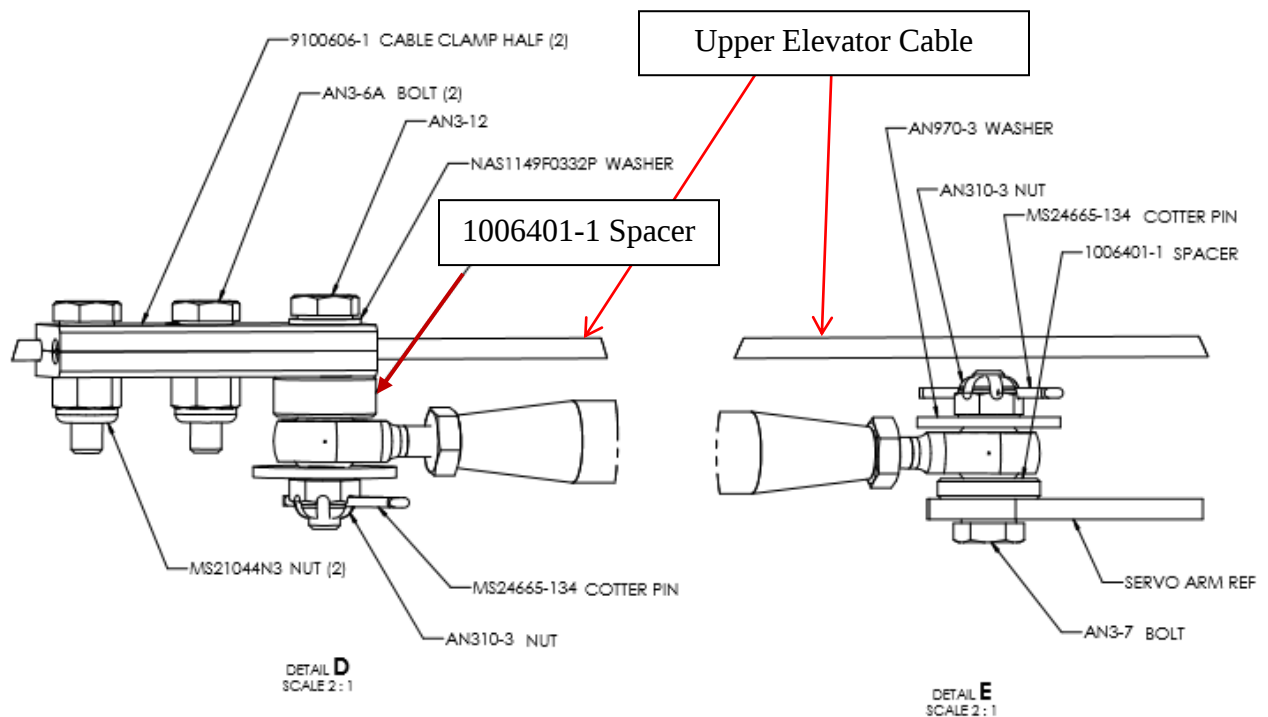

FIGURE 4-13 PITCH SERVO LINKAGE ATTACHMENT
49. Fasten the servo arm to the servo hub using the four (4) M3 (metric) screws supplied. The screws must be coated with Blue Medium strength Loctite before installation.
50. Assemble the pitch push pull tube linkage to the upper elevator cable as depicted in Detail D, Detail E in Figure 4-13.
52. Attach the push pull tube to the servo arm and upper elevator cable clamp as depicted in Figure 4-13.